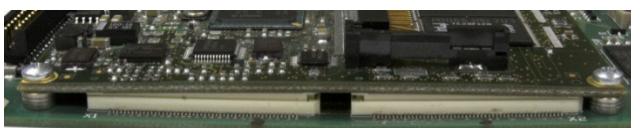

Figure 4-59: ETX Board Connectors Improperly Seated
- Note that simply installing the ETX board mounting screws will not seat the connectors properly – see Figure 4-59. Each connector must be pressed into place.